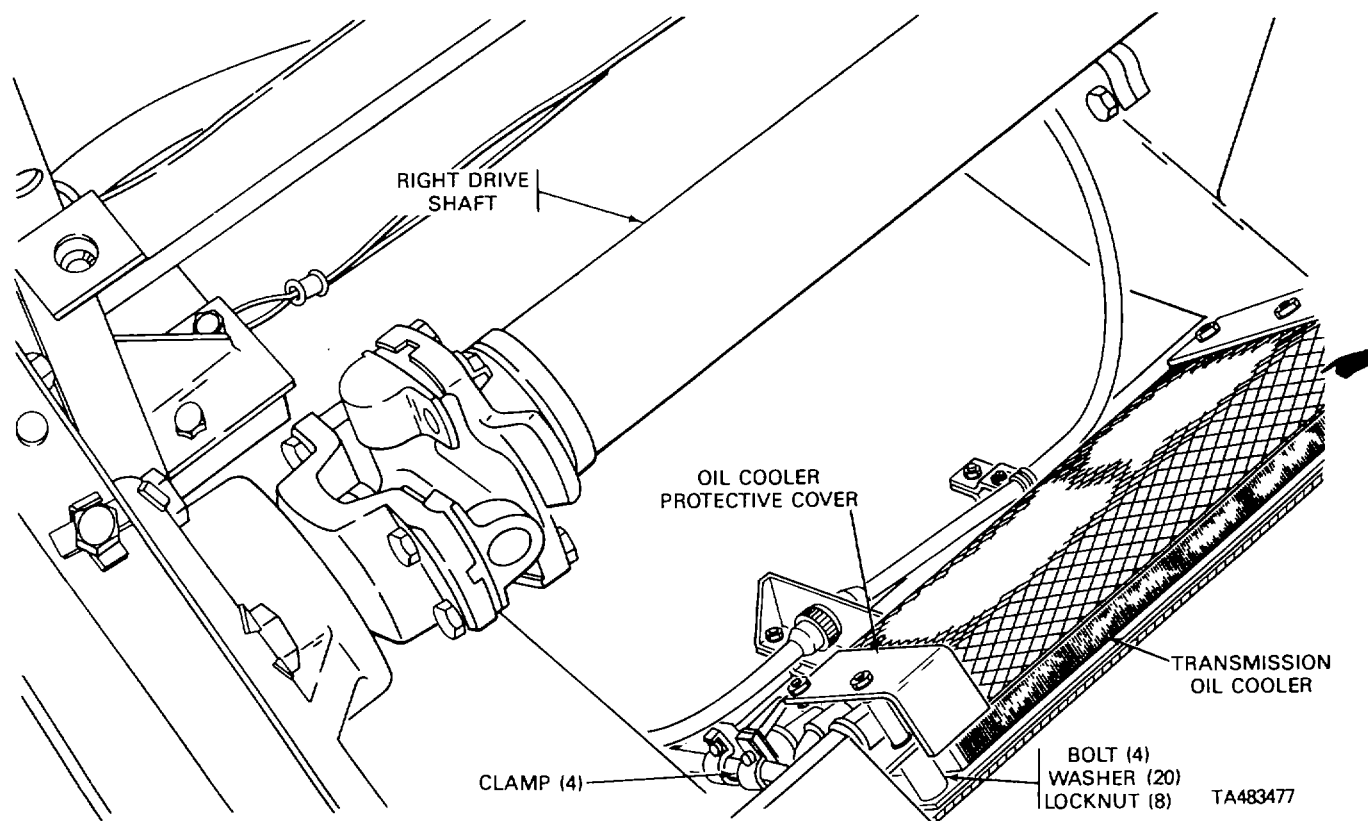

Figure 4-1.6A. Transmission Oil Cooler Replacement
- (1) Remove differential. Refer to TM 9-1450-500-20.
- (2) Remove propeller shaft forward access cover. Refer to TM 91450-500-20.
- (3) Remove clamps which secure oil cooler hoses to chassis (one forward and one rear).
- (4) Remove transmission oil cooler cover, if applicable, (see fig. 4-1.6A).
- (5) Remove loop clamps from hoses at oil